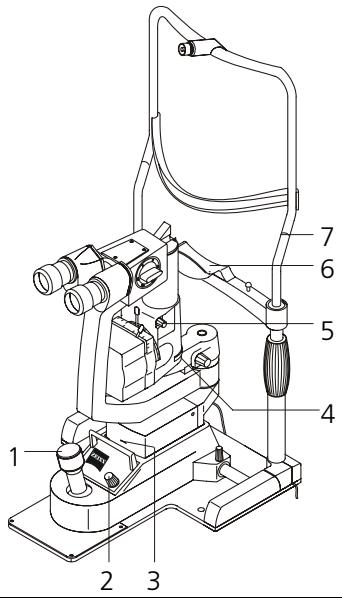

Fig. 23 Adjust slit lamp
- Afterwards, turn on the brightness control (2, Fig. 23) on the instrument base. No slit light in the left final position, in the right final position corresponds to the maximum illumination intensity.
- Adjust the chin rest (6, Fig. 23) vertically until the patient's eyes are approximately level with the red ring marks (7, Fig. 23).
- Turn the joystick (1, Fig. 23) to set the slit lamp to mid-position of the vertical adjustment range (red mark (3, Fig. 23).
- Turn the filter wheel (4, Fig. 23) to choose a filter as required.
- For retroillumination, set the illumination angle as small as possible and slightly decentre the illumination by means of control (5, Fig. 23).